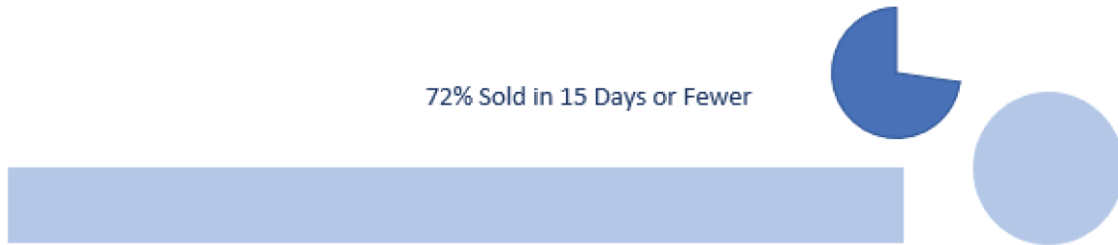

Figure 6.24: Format the shapes to complement the chart.
5. Resize the rectangle to be the same width as the chart and about half the height of the circle. Figure 6.24 shows the shapes through this step.